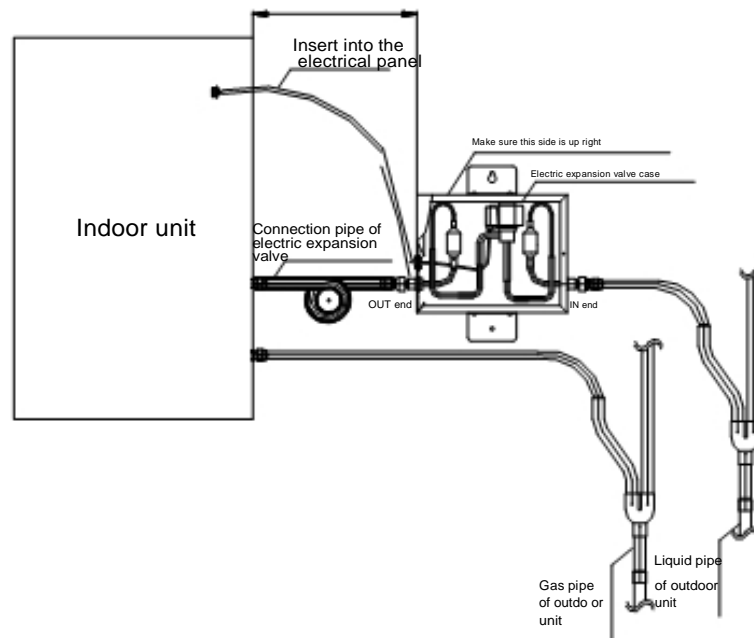

Fig 1 0 Installation sketch map of the electronic expansion valve
- ① The case should be fixed on the wall or other bearing with bolts provided , make sure fixation is firm ;
- ② Keep the case near indoor units as much as possible , the distance should be less than 1 meter , which is convenient for installing the connection pipes of the electronic expansion valve and connecting the expansion valve loop .
- ③ Keep the surface pasted with " Face up after installation " upright during installation , for if the mounting angle departs from the vertical more than 10° , it may cause expansion valve out of work .
- ④ As for the connection pipes of the valve (located in the packing chest of indoor units) , keep it as the same as that leaving factory, that is , there are two round bends , which can reduce the collision and the noise for throttling of electronic expansion valve . As for the installation , please refer to Fig 1 0 .